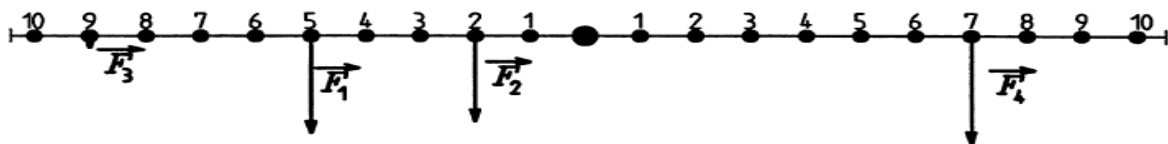

Fig. 3
- Hook the pull cords of the dynamometers and both weight holders onto suitable marks on the lever (see Fig. 3 and Table 2, column 2).